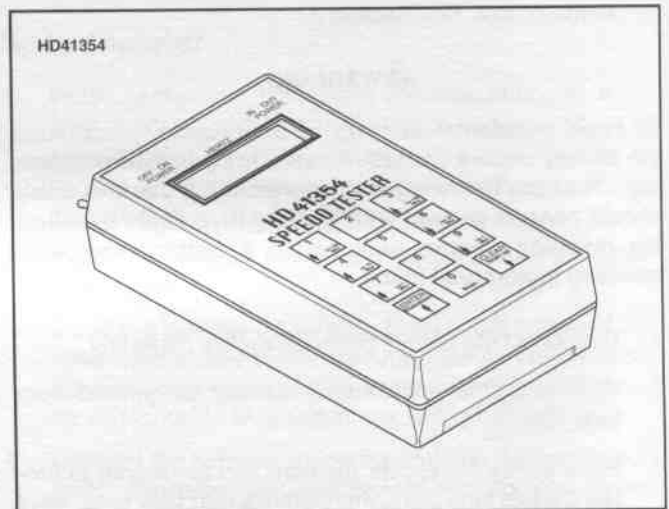

Figure 8-54. Speedometer Tester
- A good ground (1 Ohm or less) at the BK wire in the 3-place connector (See Figure 8-54).
6. If butterfly valve does not remain open in step 3, check that the black lead at the 3-place mating connector has a good ground. See Figure 8-54.
8. Using a voltmeter, verify that the W/BK wire at the 3-place mating connector (see Figure 8-54) has 12 VDC when the ignition/Light Key Switch is turned to IGNITION.
10. If solenoid is functioning properly, but butterfly valve is not opening and closing as it should, refer to item 1.3 in the following table (TROUBLEHOOTING SOLENOID-OPERATED BUTTERFLY VALVE).